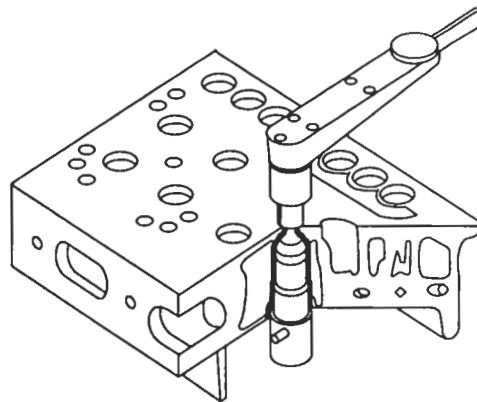

Figure 4. Upsetting Injector Tube with Tools J 5286-4C and J 5286-6
- a. Turn the cylinder head bottom side up, remove the pilot J 5286-5 and thread the upsetting die J 5286-6 into the tapped end of the installer J 5286-4C (Figure 4.)